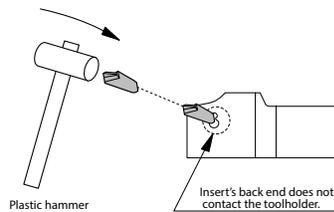

Fig.1: How to attach inserts
1. Tap the insert lightly with a plastic hammer to push it into the extent that it cannot be removed by hand. (Fig.1)